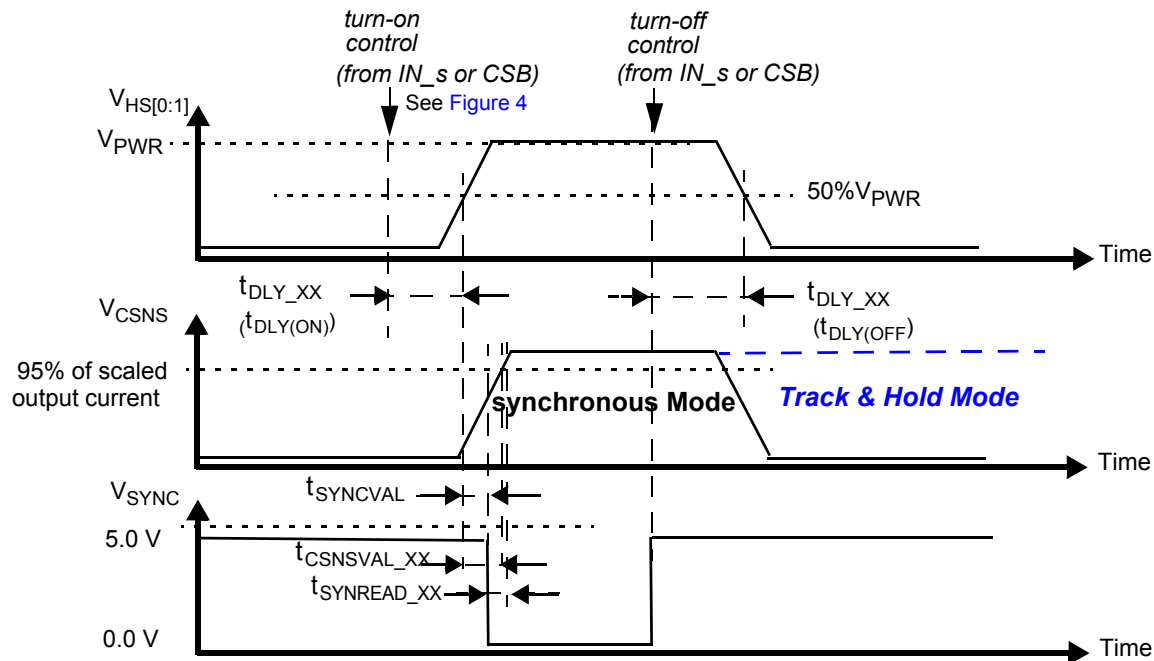

Figure 9. Synchronous and track-and-hold current sensing modes: associated delay and settling times
30. Time required to switch off the channel after detection of overtemperature (OT), overcurrent (OC), SC or UV error (time measured between start of the negative edge on the FSB pin and the falling edge on the output voltage until  $V(HS[0:1]) = 50\%$  of  $V_{PWR}$ ).
31. Settling time ( =  $t_{CSNSVAL\_XX}$ ), SYNC output signal delay ( =  $t_{SYNCVAL\_XX}$ ) and Read-out delay ( =  $t_{SYNREAD\_XX}$ ) are defined for a stepped load current ( $100\text{ mA} < I(\text{LOAD}) < I_{OCLX\_A}$  FOR  $CSNS\_RATIO\_S = 1$ , AND  $300\text{ mA} < I(\text{LOAD}) < I_{OCLX\_A\_0}$  FOR  $CSNS\_RATIO\_S = 0$ ). (see Figure 9 and Output current monitoring \(CSNS\))
The CS pin allows independent current monitoring of channel 0 or channel 1 up to the steady-state overcurrent threshold. It can also be used to sense the device temperature. The different functions are selected by setting bits CSNS1\_en and CSNS0\_en to the appropriate value (Table 23). When the CSNS pin is sensed during switch-off in the (optional) track & hold mode (see Figure 9), it outputs the scaled value of the load current as it was just before turn-Off. When several devices share the same pull-down resistor, the CSNS pins of devices the current of which is not monitored must be tri-stated. This is accomplished by setting CSNS0\_en = 0 and CSNS1\_en = 0 in the GCR register (Table 10). Settling time ( $t_{CSNSVAL\_XX}$ ) is defined as the time between the instant at the middle of the output voltage's rising edge ( $HS[0:1] = 50\%$  of  $V_{PWR}$ ), and the instant at which the voltage on the CSNS-pin has settled to  $\pm 5.0\%$  of its final value. Anytime an overcurrent window is active, the CSNS pin is disabled (see Overcurrent detection on resistive and inductive loads). The current and temperature sensing functions are unavailable in Fail-safe mode and in Normal mode when operating without the  $V_{DD}$  supply voltage. In order to generate a voltage output, a pull-down resistor is required ( $R(CSNS)=1.0\text{ k}\Omega$  typ. and  $470 < R(CSNS) < 10\text{ k}$ ). When the current sense resistor connected to the CSNS pin is disconnected, the CSNS voltage is clamped to  $V_{CL(CSNS)}$ . The CSNS pin can source currents up to about 5.6 mA.
To synchronize current sensing with an external process, the SYNC signal can be connected to a digital input of an external MCU. SYNC is asserted logic low when the current sense signal is accurate and ready to be read. The current sense signal on the CSNS pin has the specified accuracy  $t_{SYNCREAD\_XX}$  seconds after the falling edge on the SYNC pin (Figure 9) and remains valid until a rising edge is generated. The rising edge that is generated by the SYNC pin at the turn-OFF instant (internal or external) may also be used to implement synchronization with the external MCU. Parameter  $t_{SYNCVAL\_XX}$  is defined as the time between the instant at the middle of the output-voltage rising edge ( $HS[0:1] = 50\%$  of  $V_{PWR}$ ), and the instant at which the voltage on the SYNC-pin drops below 0.4 V ( $V_{SOL}$ ). The SYNC pins of different devices can be connected together to save  $\mu$ -controller input channels. However, in this configuration, the CSNS function of only one device should be active at a time. Otherwise, the MCU does not determine the origin of the SYNC signal. The SYNC pin is open drain and requires an external pull-up resistor to VDD.